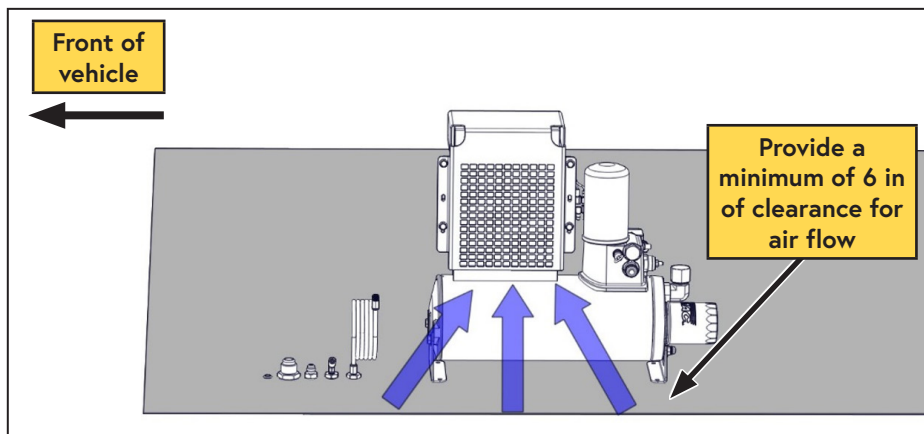

Figure 22 — WHASP ventilation
*A minimum of 6 in of clearance is recommended around the radiator (intake) side of the WHASP Tank to allow fresh, cool air to circulate into the cooler and fan (Figure 22).*